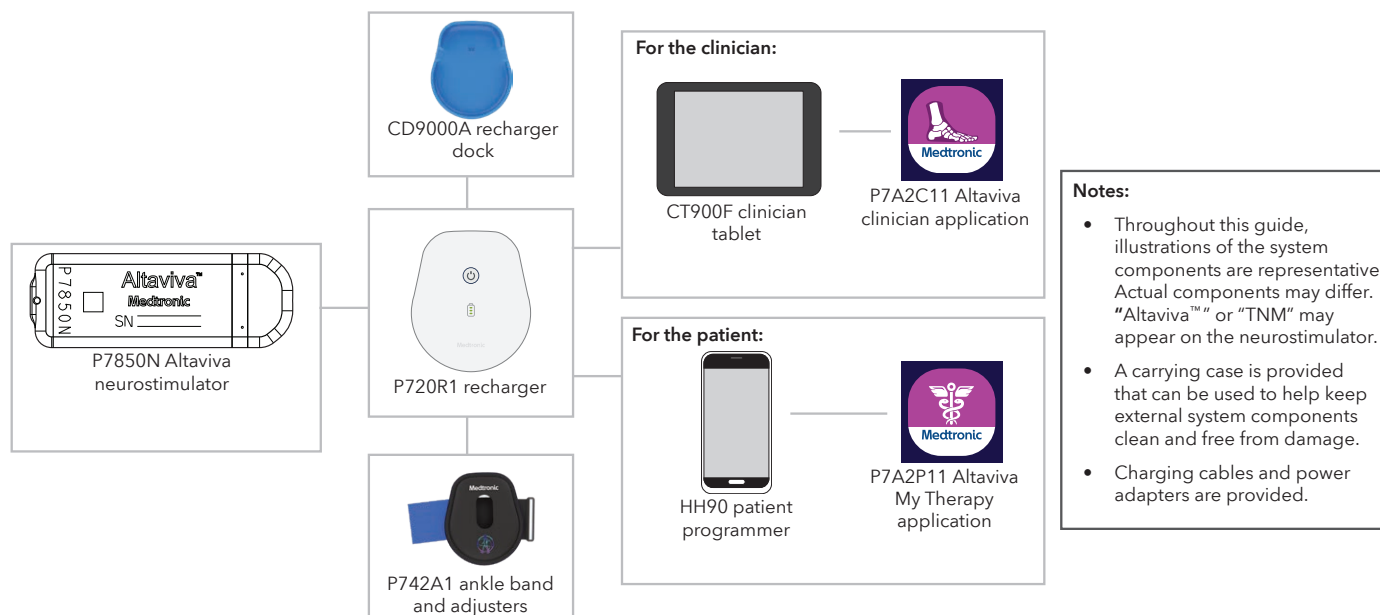

Figure 2. The Altaviva system
- Medtronic components** - For proper therapy, use only components that are compatible with the Altaviva system. Compatible Medtronic components are listed in Figure 2.